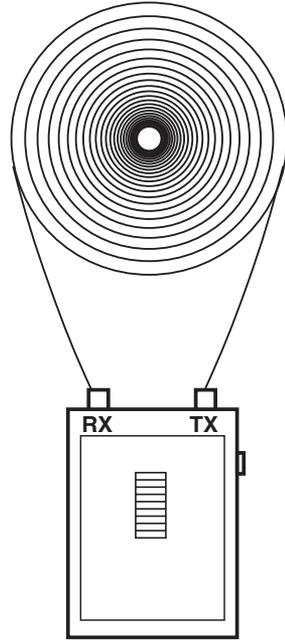

Fig. 3-1. Measuring the Loss in a Spool of Fiberoptic Cable.
3.1 Using the Tester to Measure Signal Loss in a Loop of Fiberoptic Cable (Fig. 3-1)